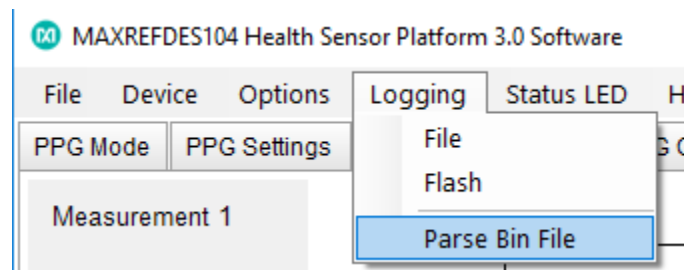

Figure 31. The built in parser processes, converts, and saves flash log data to a .csv file.
- See Figure 31 for an example where algo hub mode has been enabled with default settings. The column header for PPG measurements are denoted in the format LEDCn_PDM, where n corresponds to the nth-enabled measurement and m corresponds to the PPG channel 1 or 2. In this example, LEDC1_PD2 represents the first-enabled measurement and PPG channel 2 of that measurement. Note that this header format does not describe which LED or LED driver is used. When multiple measurements are enabled, the corresponding columns are added in the .csv file following this header format.